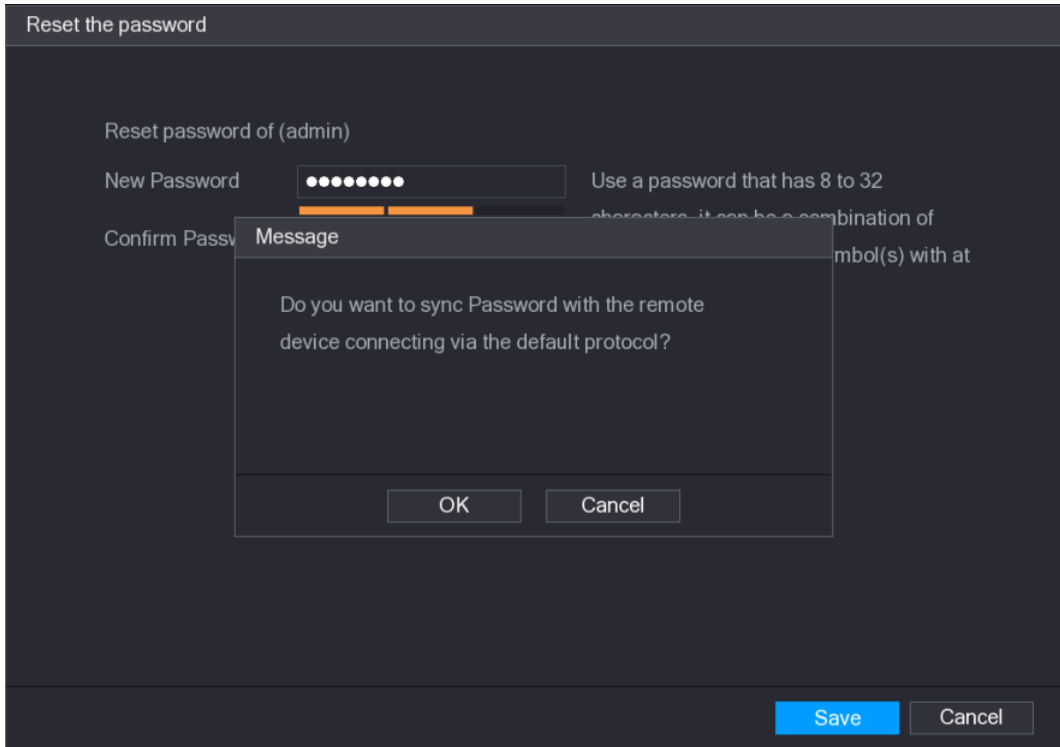

Figure 5-15
A pop-up message is displayed asking if you want to sync the password with the remote devices, see Figure 5-15.
- Click **OK**, the Sync Info interface is displayed. See Figure 5-15.